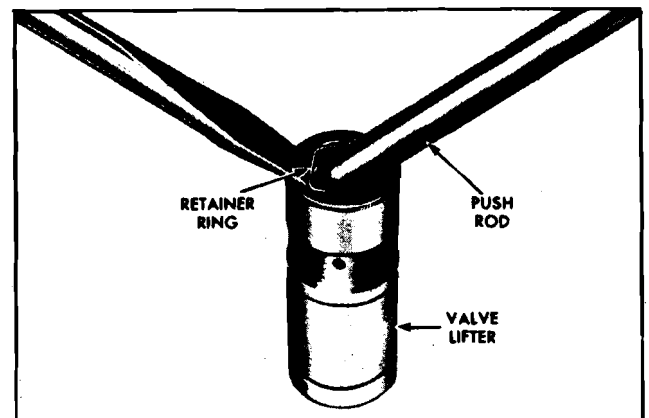

Fig. 6-83 Removing Push Rod Seat Retainer
1. Remove push rod seat retainer ring by holding seat down with push rod while dislodging spring from lifter body with a pointed tool (Fig. 6-83).